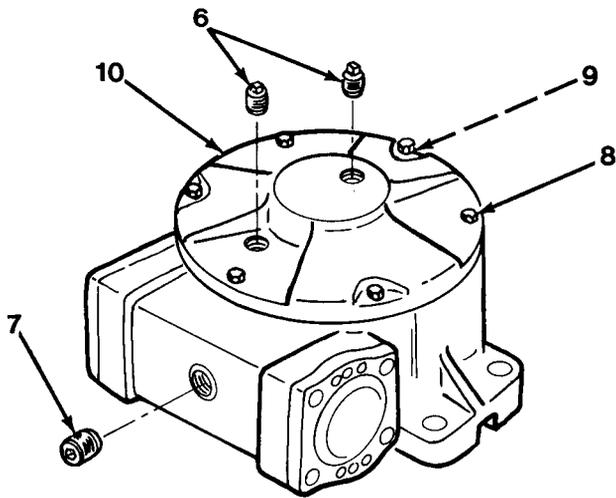
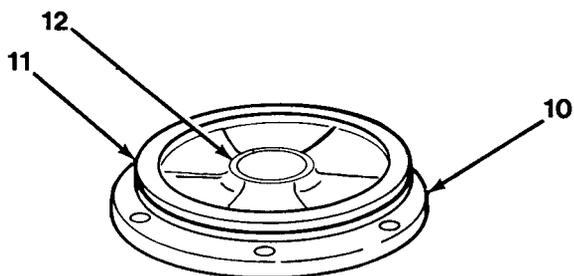
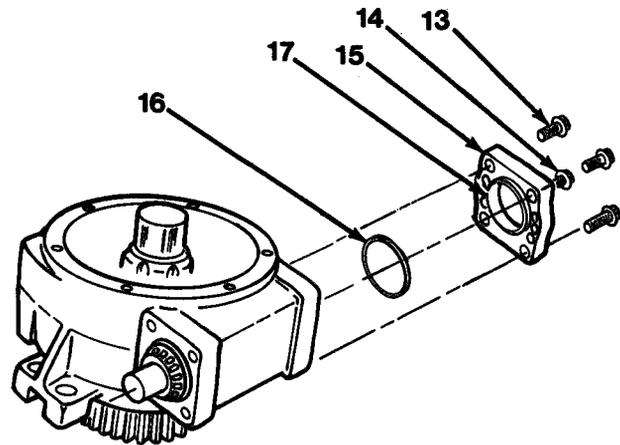
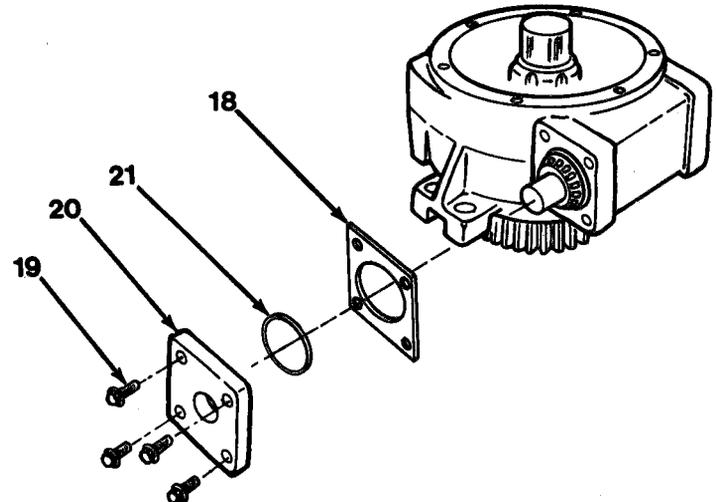

Figure 15-2
Figure 15-3
Figure 15-4
Figure 15-5
1. Remove two drain plugs (6) from cover (10). Remove pipe plug (7, Figure 15-2) to drain oil into suitable container.
2. Remove six capscrews (8) and lockwashers (9) horn cover (10).
3. Remove cover (10).
4. Remove O-ring (11, Figure 15-3) from cover (10).
5. Remove bushing (12) from cover (10), if necessary.
6. Remove four capscrews (13) and lockwashers (14) securing bearing retainer (15, Figure 15-4).
7. Remove bearing retainer (15).
8. Remove O-ring (16) and seal (17).
9. Remove four capscrews (19) securing bearing container (20, Figure 15-5).
10. Remove bearing container (20) and O-ring (21).